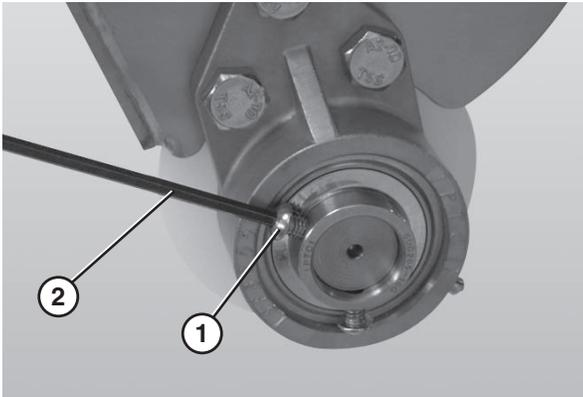

Figure 69
5. Tighten the 3 hole flange with bearing fasteners (**Figure 69, item 1**) using a hex wrench (**Figure 69, item 2**) to 6 N•m (54 in•lbs). Check after 24 hours of conveyor use.